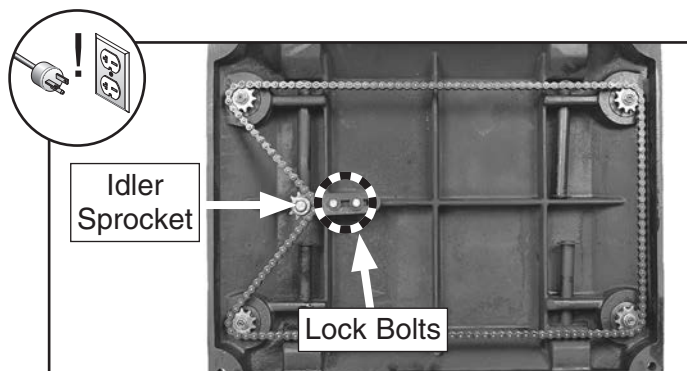

Figure 48. Headstock height chain adjustment.
2. Remove motor access panel to access headstock height chain (see **Figure 48**).
3. Loosen the two chain tension lock bolts, then push idler sprocket against chain with moderate pressure to eliminate slack in chain. While maintaining pressure on idler sprocket, re-tighten lock bolts (see **Figure 48**).